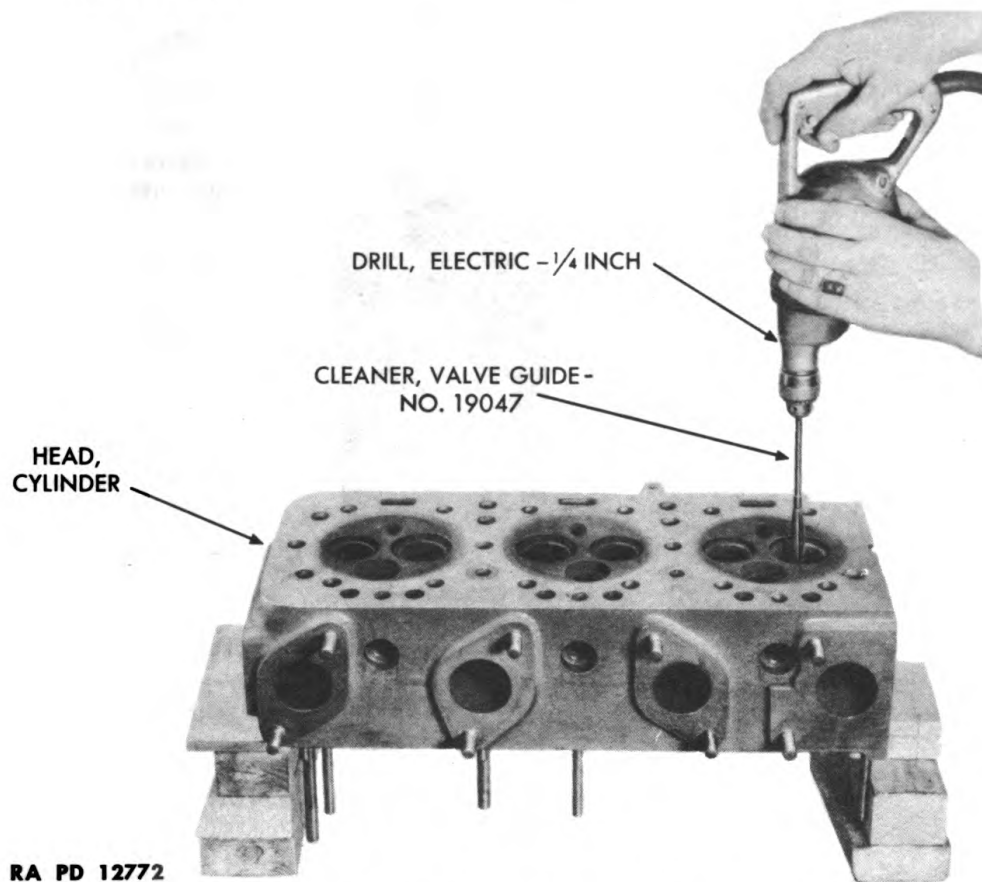

Figure 77—Cleaning Intake Valve Guide
- (1) **DISASSEMBLE THE CYLINDER HEAD.** Follow procedure outlined in paragraph 127.
- (2) **CLEAN AND INSPECT ALL PARTS.** Follow procedure outlined in paragraph 128.
- (3) **CLEAN VALVE GUIDES** (fig. 77). See paragraph 80 b (7).